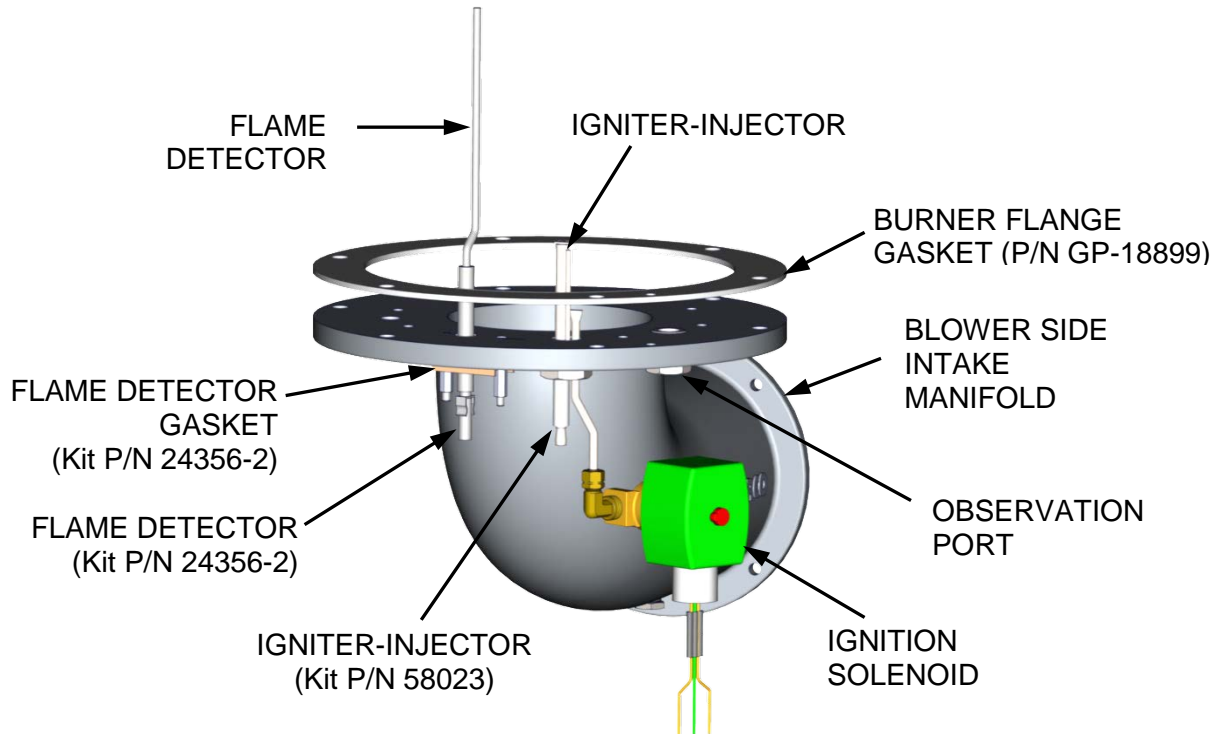

Figure 6-1. Blower-Side Intake Manifold with Igniter-Injector & Flame Detector
The igniter-injector is located on the flange of the blower-side intake manifold, at the bottom of the unit's heat exchanger. The igniter-injector (Kit P/N 58023) is the same for Natural Gas and Propane units. Figure 6-1 shows the blower-side intake manifold (removed from the heater) showing the location of the igniter-injector, flame detector and related components.
Flame detector (Kit P/N 24356-2) is used on ALL Innovation Water Heater models. The flame detector is also located on the flange of the blower-side intake manifold as shown in Figures 6-1 and 6-2. The flame detector may be hot. Allow the unit to cool sufficiently before removing the flame detector.
4. Remove the two (2) hex standoffs securing the flame detector to the intake manifold (Figures 6-1 and 6-2). The flame detector is secured to the burner intake manifold with one (1) #10-32 and one (1) #8-32 hex standoff.
6. Remove the two (2) hex standoffs securing the flame detector to the intake manifold (see Figures 6-1 and 6-2).
8. Disconnect the cable from the igniter-injector, loosen the compression nut and elbow from the gas injector tube (Figure 6-1), and remove the entire ignition assembly (nut/elbow, solenoid valve, hose nipple, and gas flex hose) from the manifold flange.